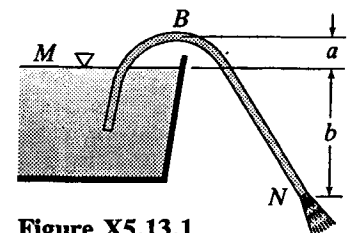

Figure X5.13.1
5.13.3 Refer to Fig. X5.13.1. Find the maximum value for b if $a = 1.1$ m. Assume friction is negligible and the minimum pressure allowable in the siphon is a vacuum of -9.8 m of water.